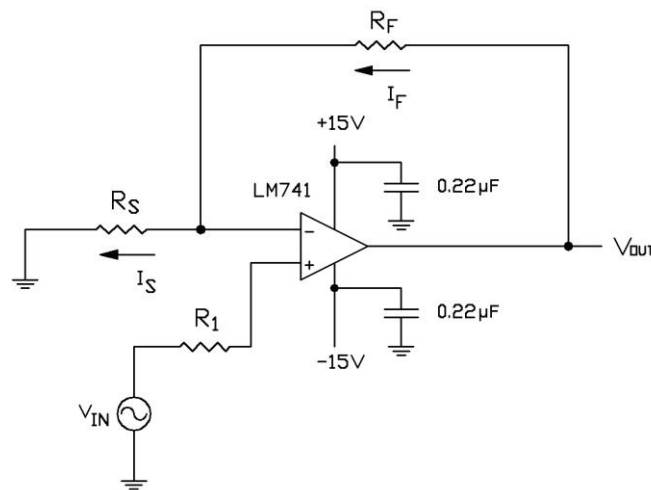

Figure 4
Figure 4 shows a basic noninverting amplifier using an operational amplifier. Resistor,  $R_F$ , provides the negative feedback.
Construct the circuit shown in Figure 4 on the breadboard. Use the Tektronix AFG 1022 Function Generator to provide the voltage source,  $V_{IN}$ . Set the magnitude of this voltage source to  $1.0 V_{PEAK}$  and set the frequency,  $f$ , to 1000 Hz. Connect Channel 1 of the Tektronix TBS 1064 Oscilloscope to measure the voltage at  $V_{IN}$  (the output of the signal generator) with respect to ground. Connect Channel 2 of the Tektronix TBS 1064 Oscilloscope to  $V_{OUT}$ . You are to **design** an amplifier with the following characteristics:
A copy of Figure 4 with all component values shown must be included in the report. The report should also contain your design equations and a figure showing the input and output waveforms. The figure must be properly annotated which means a title, axis labels and scales. The waveforms must be identified (i.e.  $V_{OUT}$  and  $V_{IN}$ ). Just Ch 1 and Ch 2 is not sufficient. Calculate the actual gain from the voltages in your figure and include this calculation in your report.
Change the value of  $R_1$  in Figure 4 to 10K. Keep the magnitude of the Tektronix AFG 1022 Function Generator voltage source set to  $1.0 V_{PEAK}$ . Include in your report a figure showing the input and output voltage waveforms. Calculate the actual gain from the voltages in your figure and include this calculation in your report. Compare the voltage gains with  $R_1$  set to 1K and 10K. Are they different? If so why are they different. If they are the same, why are they the same?
**Show Figure 4 with component values here**